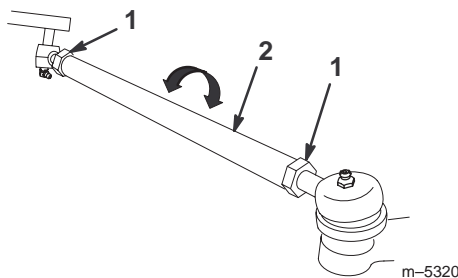

Figure 49
5. If the measurement does not fall within the specified range, loosen the jam nuts at both ends of the tie rods (Fig. 49).